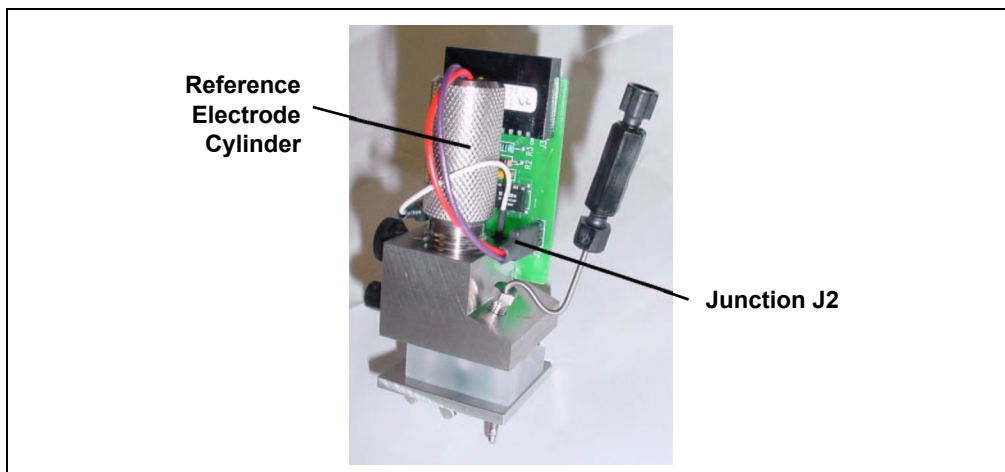

Figure 5-8. Removing the Reference Electrode
5. Disconnect the reference electrode's J2 connector from junction J2 on the electronics card (see Figure 5-8).